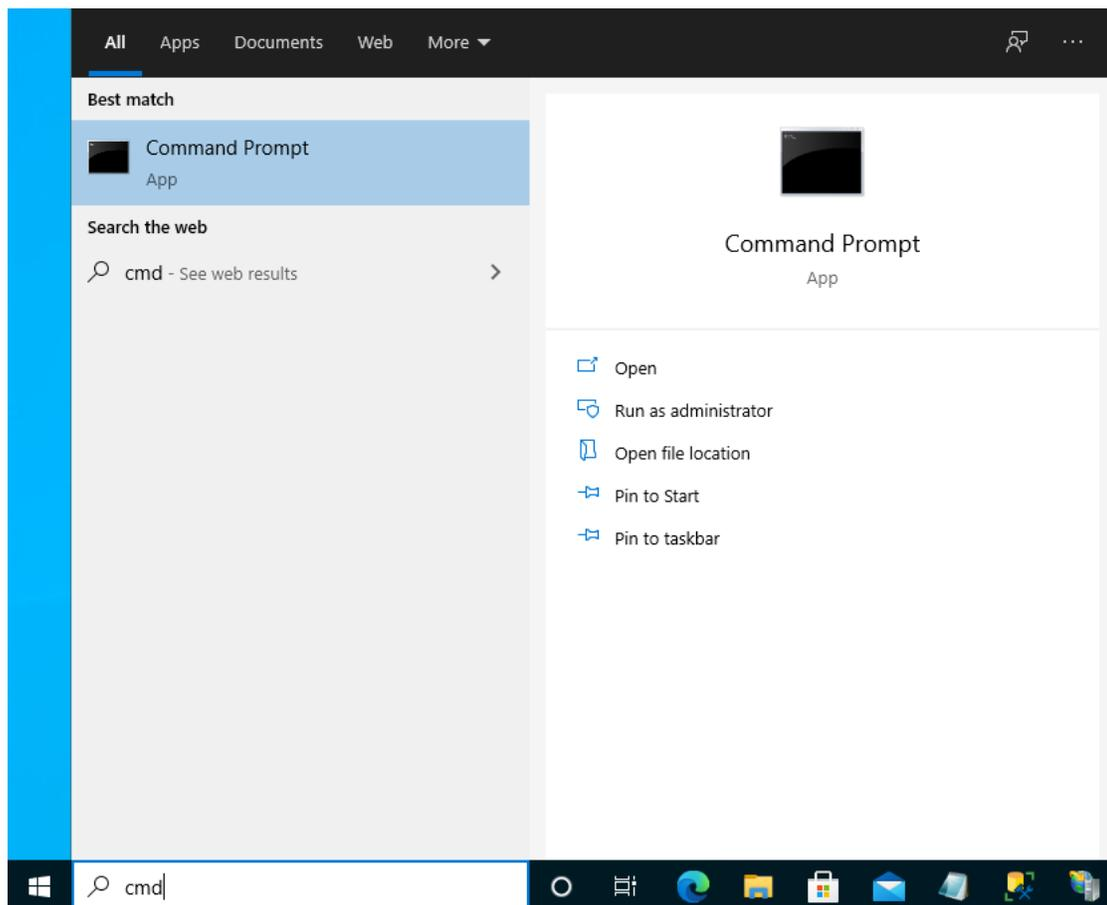

Figure 14: Command Prompt app.
1. In the Start menu, search for the Command Prompt app (Figure 14). Run the cmd.exe file as an administrator.